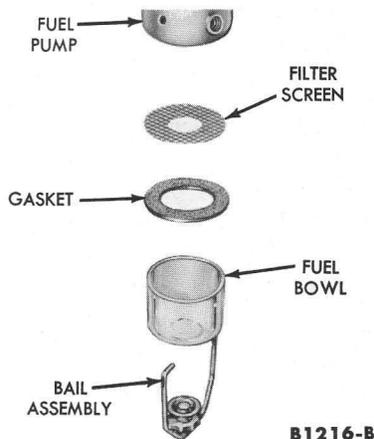

FIG. 12—Sediment Bowl
5. Clean Fuel Pump Sediment Bowl. Clean the bowl and magnetic filler (Fig. 12) with cleaning solvent and dry them with compressed air. Replace the gasket if it is defective.